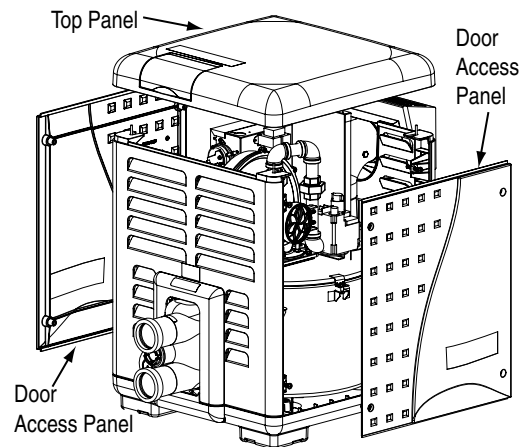

Figure 32.
1. Unbolt and remove the door panels (see Figure 32).